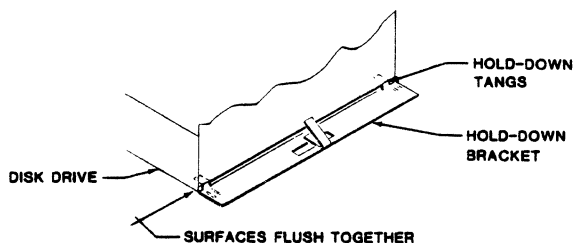

Figure 7-19. Cabinet Hold-Down Bracket and Hold-Down Tangs
3. Push the disk drive and slides into the cabinet until the slides reach their "STOP" and are fully retracted. Continue to push the disk drive into the cabinet until the rear of the disk drive is flush against the hold-down bracket and hold-down bracket tangs (Figure 7-19) protrude into lower rear of disk drive (under power supply).